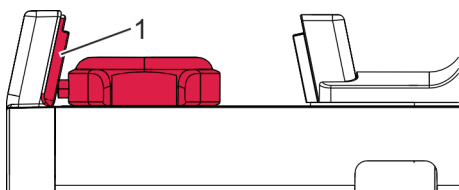
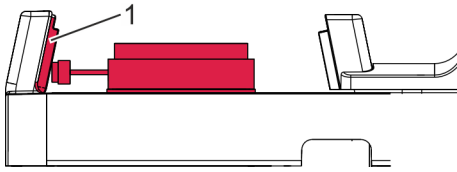

Fig. 11: Clamping the complete watch
Fig. 12: Clamping the watch movement with cup
2. ➤ Place the crown of the watch or cup on the clamping area so that it is positioned up against the signal sensor (Fig. 11/1, Fig. 12/1).